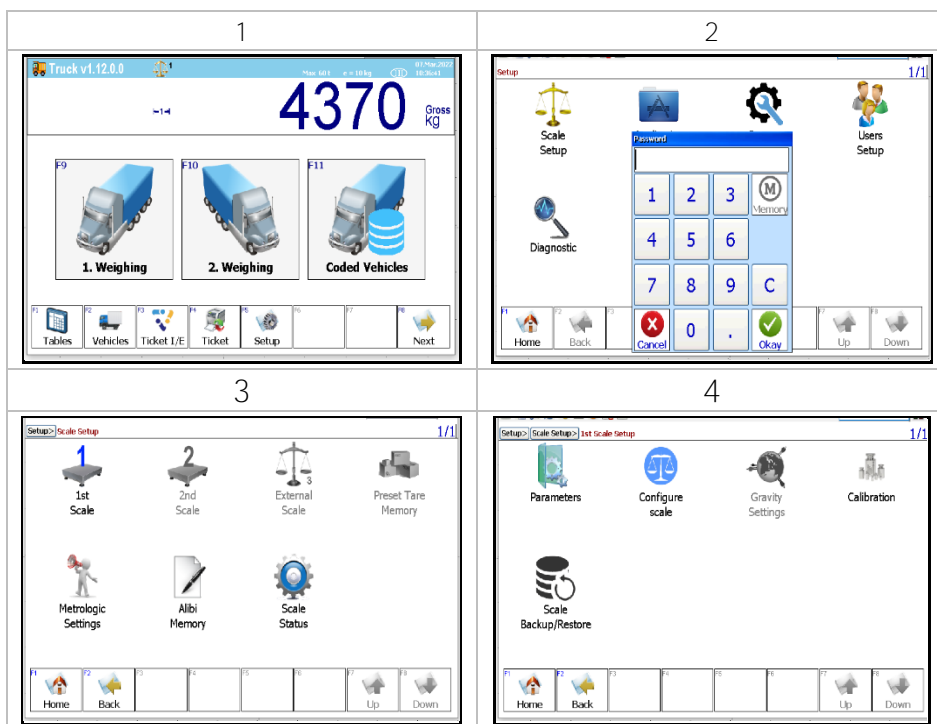

Figure 5-1
2. Click the Setup key on the Home Screen (Screen 1 in Figure 5-1 below).
5. Click the First Scale icon on the Screen 3, and then First Scale Setup screen (4) appears. From screen 4, you can Access "Parameters", "Configure scale", "Calibration", and "Scale Backup / Restore" menus. The "Gravity Settings" icon is disabled.
When the parameters  icon in screen 4 of Figure 5-1 is clicked, screen 1 below opens. Click the Down key to access the second page of this screen, then screen 2 opens.